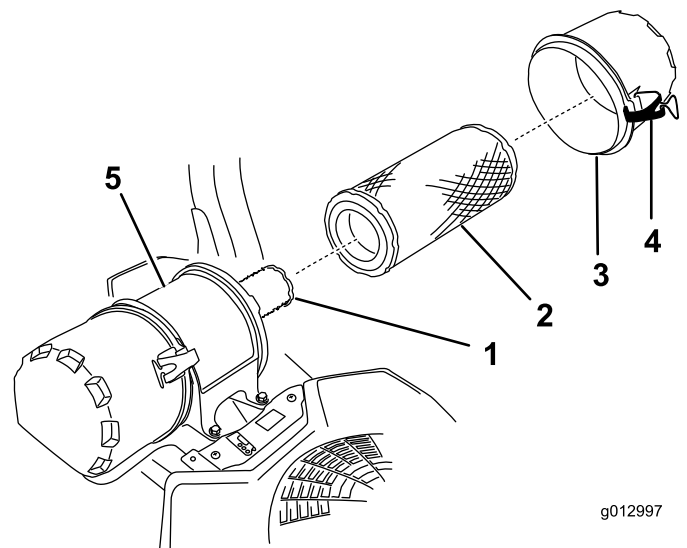

Figure 37
6. Release the latches on the air cleaner and pull the air-cleaner cover off the air-cleaner body (Figure 37).
8. Gently slide the primary filter out of the air-cleaner body (Figure 37).
2. If you are replacing the inner filter, carefully slide it into the filter body (Figure 37).
3. Carefully slide the primary filter over the safety filter (Figure 37).
4. Install the air-cleaner cover and secure the latches (Figure 37).